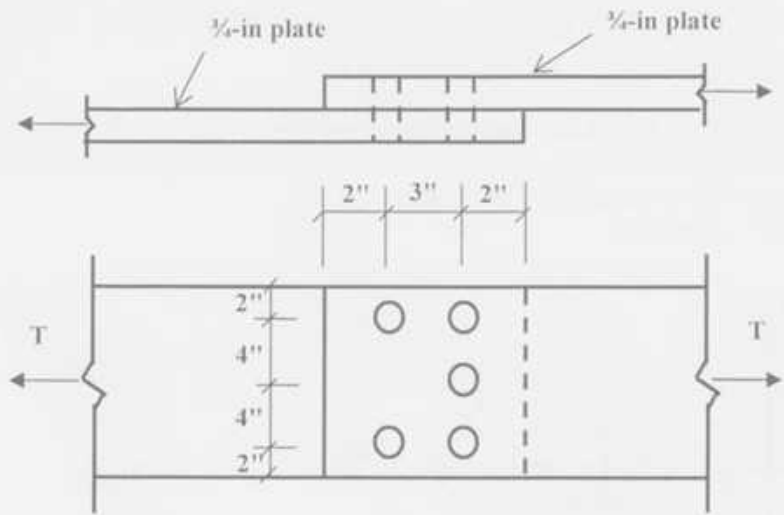

Fig. 1
1. Two $\frac{3}{4}$ -in. thick A36 steel plates are lap connected using five $\frac{3}{4}$ -in. diameter A325 bolts in standard holes as shown in Fig. 1. Determine the design strength of the splice in block shear using AISC/LRFD method. Given: $U = 1$. See Annexure-1.